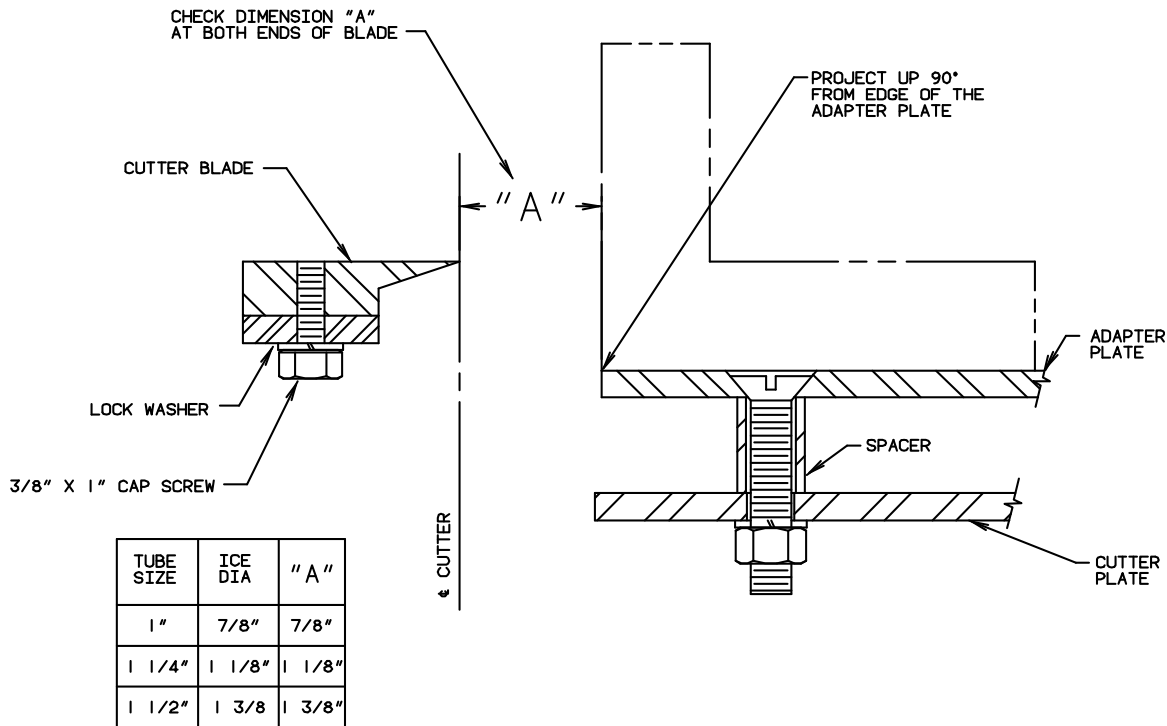

Figure 9-8
4. Refer to FIGURE 9-8, adjust each blade to dimension "A" and lock the blade in position by tightening the 3/8" cap screws. Note: Use a 90° square (as illustrated) to obtain the proper blade clearance required for satisfactory ice discharge. Dimension "A" is critical and should be measured at both ends of the blade. Note: 3/8" x 1" cap screw must be flush with cutter blade.
2. Locate the new adapter plate, holding the correct dimension "A" from the edge of the plate to the edge of the blade. See Figure 9-8.